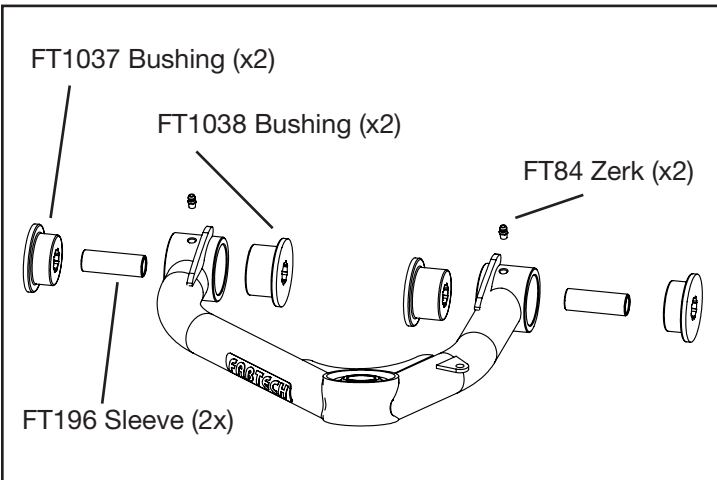

FIGURE 2
5. Install all these components in the control arm barrels. **SEE FIGURE 2**